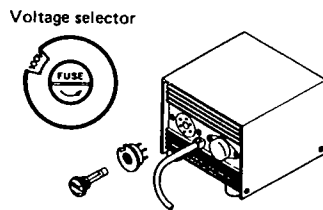

Fig. 98
- a. Make sure the power switch ① is OFF.
- b. Connect the No. 6861-01 to the No. 6860-01 set in the battery case ②.
- c. **Select a proper voltage by turning the voltage selector on the rear side of the No. 6861-01, Fig. 98.**